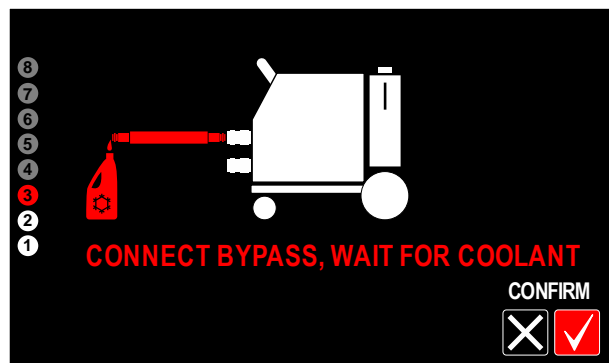

Figure 16
- Connect the short black hose with quick water connectors (BYPASS included with the equipment) to blue outlet socket on front of the power source. Observe the coolant circuit, wait till the coolant starts leak from the **BYPASS**. For a coolant overflow recommended is to use FREEZCOOL reservoir - (Figure 16).